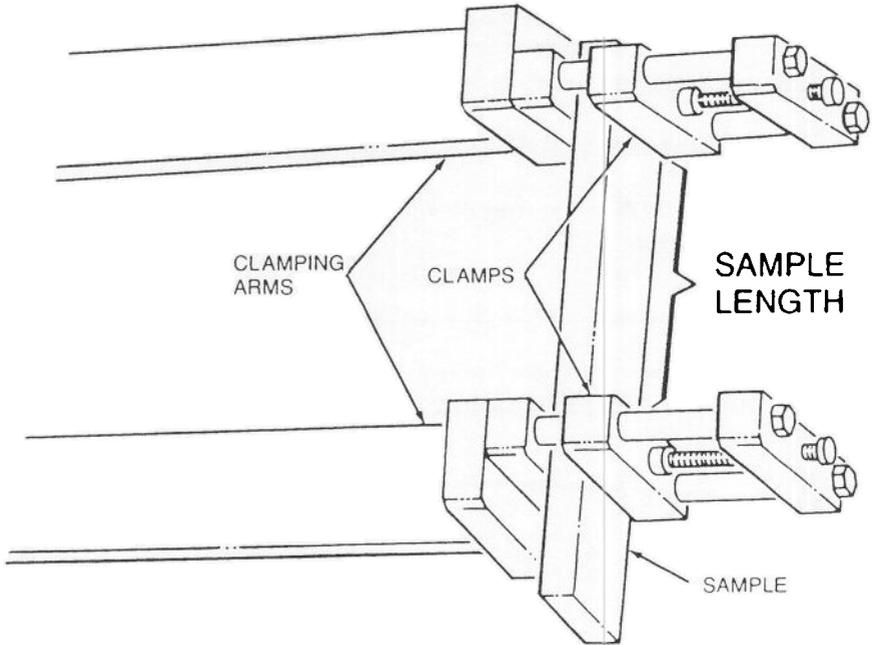

Figure 5.3
- Measure the sample length as the distance between the inner edges of the clamps (see Figure 5.3).
- Measure the sample length as the distance between the inner edges of the clamps (see Figure 5.3 on page 43).